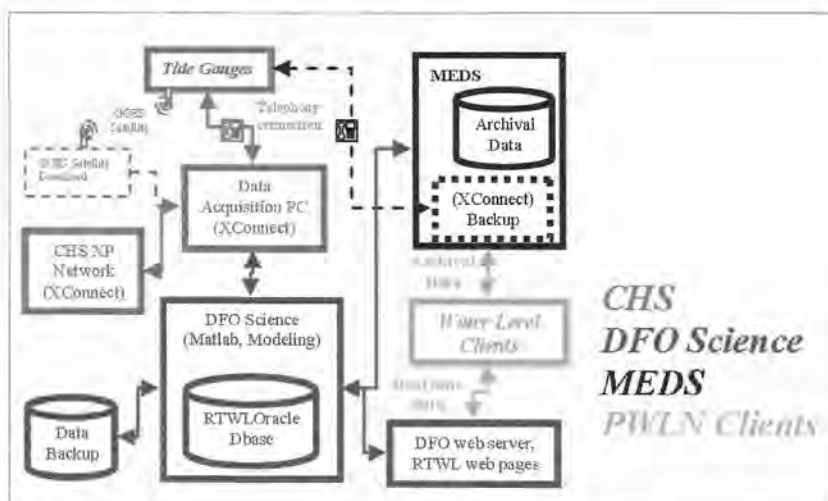

Figure 3: CHS Atlantic's RTWL solution.
The results of the 1965 CHS survey (Figure 3), which was conducted to support the development of a marine terminal at the mouth of the Memramcook River, were obtained from the CHS archives as a Tif image file scanned from the original mylar fieldsheets. The Tif image was georeferenced using datum information printed on the sheet. Vertical datum was established with the assistance of Charlie O'Reilly (personal communication). Selected depth annotations were then digitized by assigning the noted depth to the geographic position of the optical centre of the hand written digits.
*Figure 3: Portion of Canadian Hydrographic Service field sheet from 1965 survey showing sample sub-bottom profiler lines. Inset shows preliminary digitization points for one of the lines.*
Figure 3 shows a schematic of the basic elements of CHS Atlantic's Real Time Water Level (RTWL) solution. The solution is inter-departmental and collaborative and has made use of as much existing Department of Fisheries and
Under the new system, only CHS Atlantic has direct access to its tide gauge stations, which are all password protected. Unfortunately, the new Atlantic system presently has no data acquisition redundancy, although a backup capacity is contemplated at MEDS (Figure 3, dotted in black).